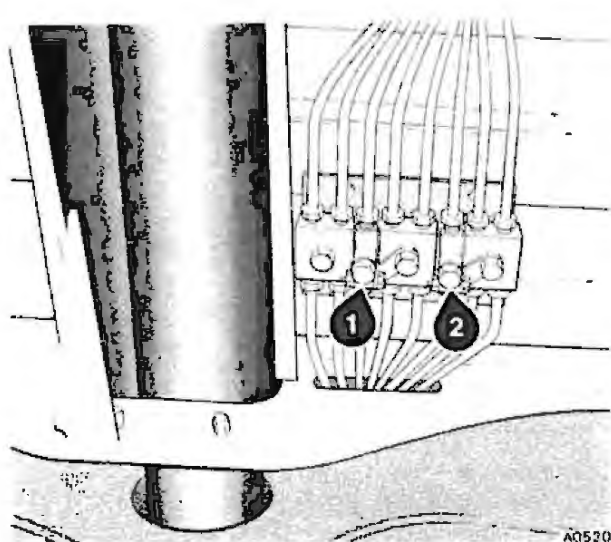

Fig. 1
It has been achieved by replacing the 4-way connector blocks and mounting plate with three 2-way connector blocks, two (T) pieces, two brackets, and a new mounting plate. The new assembly and its location is illustrated in figure 1.